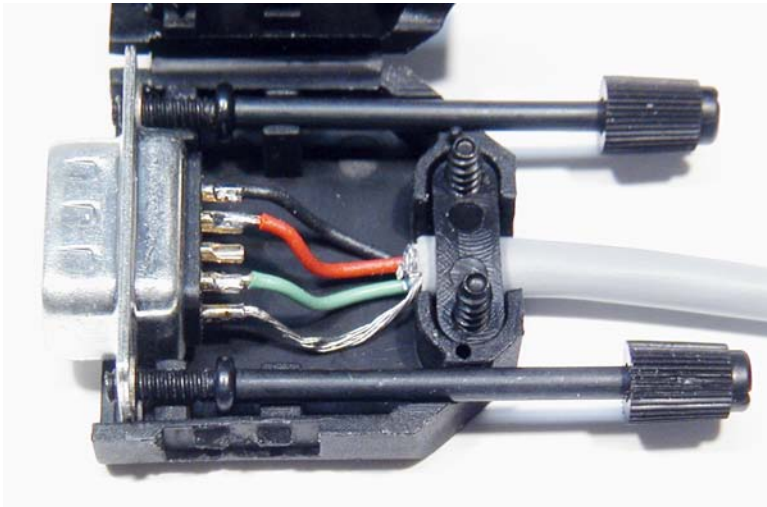

Figure 49. Installing DB-9 Connector Housing.
□ Attach the connector housing to the transverter connector(s) as shown in Figure 49. The cable clamp has enough capacity to handle up to three cables. Before closing the housing, be sure that: